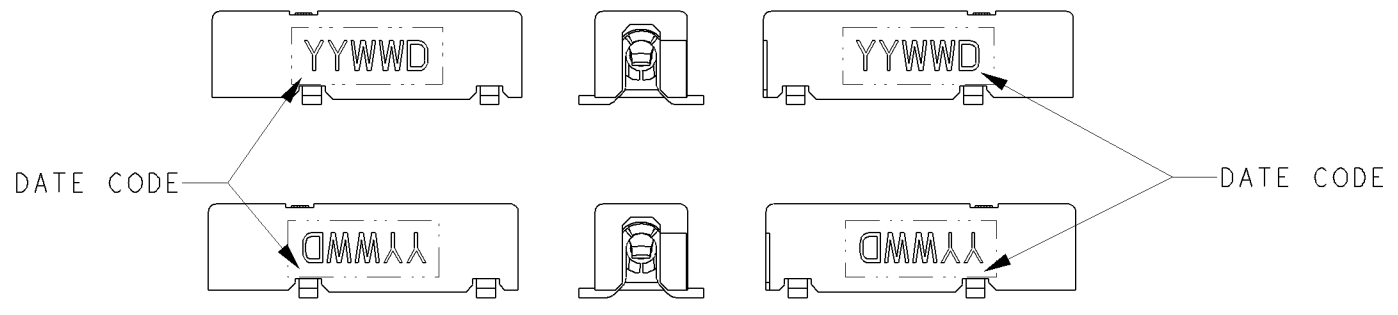

FIG. 1 DATE CODE MARKING POSITION AND AREA
③ 6 REFER FIG. 1 AS DATE CODE MARKING POSITION AND AREA. DATE CODE IS MARKED AT ONE SURFACE OR SEVERAL SURFACE.